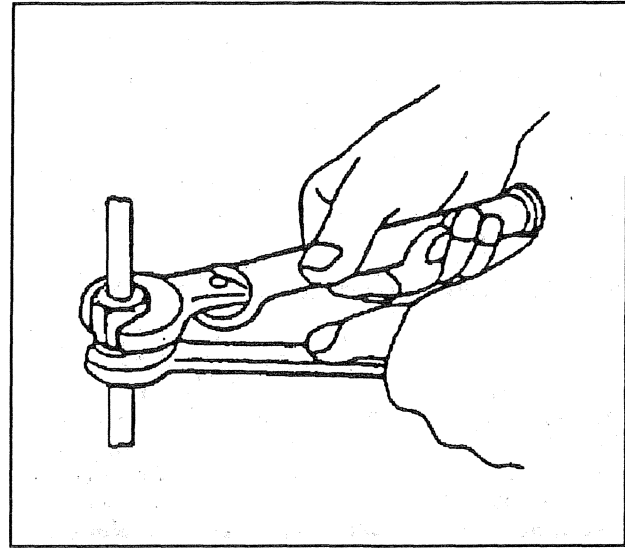

Figure 14—Using the Two-Wrench Method
- It is important to use the proper wrenches when making connections on O-ring seal fittings. The use of improper wrenches may damage the connection. The opposing fitting should always be backed up with a wrench to prevent distortion of connecting lines or components (figures 14 and 15). When connecting the flexible hose connections, it is important that the swaged fitting and the flare nut, as well as the coupling to which it is attached, be held at the same time using three different wrenches to prevent turning the fitting and damaging the seat.